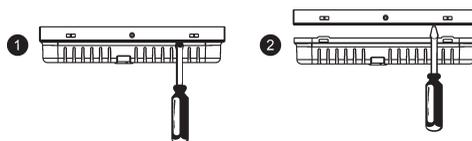

Figure 2-4: Opening the Housing
- Insert a screwdriver between the front and back panels of the housing; carefully twist it to release the tabs (see p. 8, Figure 2-4).
4. Open the housing (see p. 8, Figure 2-4).